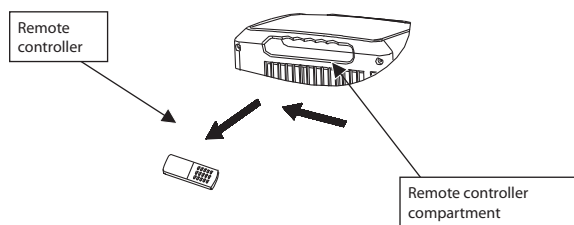

Fig. 18
1. Remove the remote controller from its compartment in the direction indicated by the arrow (see fig. 18).